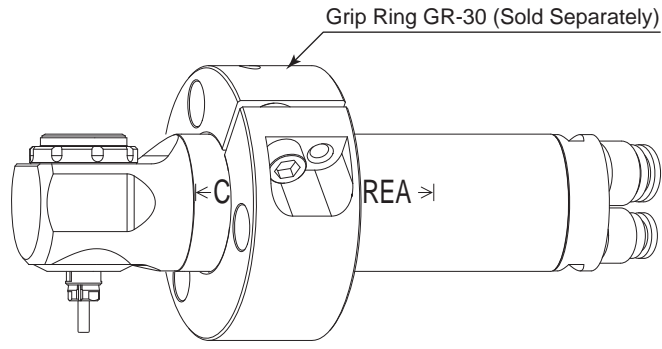

Fig. 7
\* When installing the Air Motor Spindle, it is recommended to use a " GR - 30 Grip Ring (sold separately (Fig. 7)) ". If the GR - 30 Grip Ring cannot be used due to the restriction of dimension and space, install as shown in ② below.